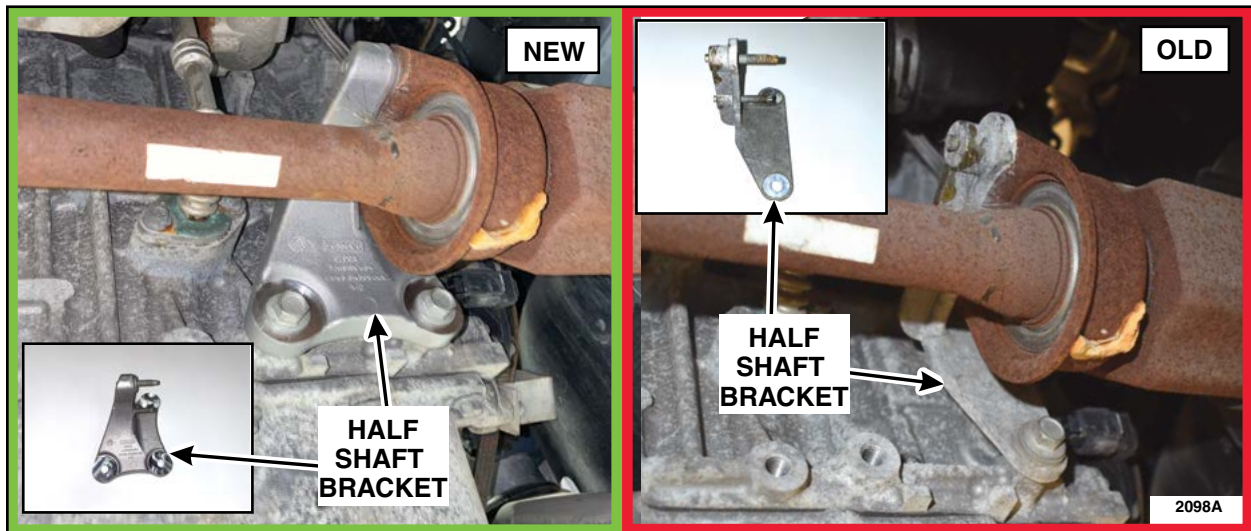

FIGURE 1
1. Remove the front Right Hand (RH) wheel and tire assembly. Please follow the Workshop Manual (WSM) Procedures in Section 204-04A.
3. If equipped, remove the two (2) side shield screws and remove the shield located in the passenger fender splash shield area.
4. If equipped, remove the two (2) heated oxygen sensor wiring retainers on the half shaft bearing nuts.
5. Remove and discard the two (2) half shaft retaining nuts.
6. Remove and discard the two (2) RH half shaft bearing bracket bolts and remove the bracket.
**NOTE:** To see the old and *new* half shaft bracket. See Figure 1.